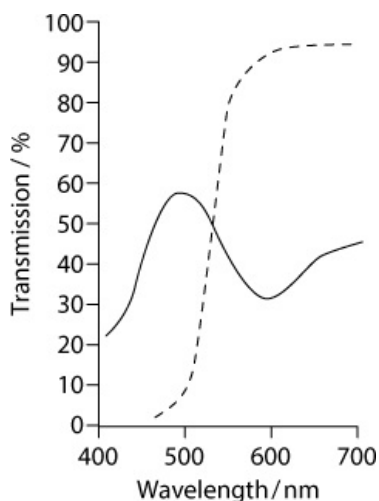

Figure 15.4: Graphical representation of the outcome of copper reacting with potassium dichromate(VI)
Figure 15.4 shows how the percentage transmittance changes with wavelength, using a sample taken at the start of the reaction and a sample taken when the reaction is nearly complete.
- a** On Figure 15.4, identify the spectrum at the start of the reaction by the letter *S*, and the spectrum near the completion of the reaction by the letter *C*.
- b** On Figure 15.4, draw the spectrum you would observe when the reaction is about half complete. Explain the line you draw in terms of the transmission of light of different colours through the reaction mixture.